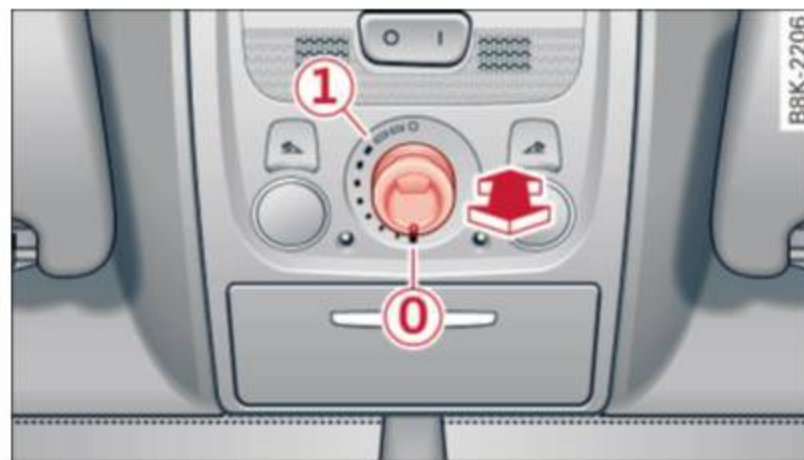

Fig. 37 Section of headliner: knob for sunroof
Requirement: the roof switch must be in the (0) position ⇒ *fig. 37*.
- ▶ To tilt it, briefly press the switch ⇒ *fig. 37*.
- ▶ To tilt it, briefly press the switch ⇒ *page 44, fig. 37*.
- ▶ Press the switch 2 ⇒ *page 44, fig. 37* in the desired arrow direction.